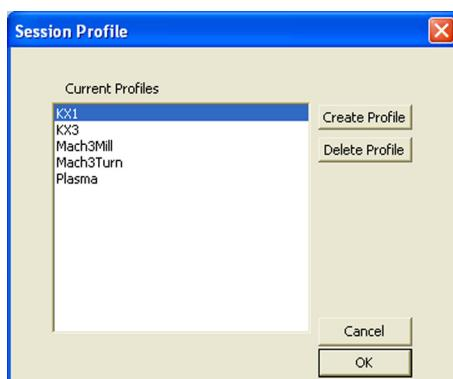

Fig. 3
2. Start Mach3: Open the **Mach3 Loader** program on the desktop and select either the KX1 or KX3 mill profile (to suit your machine), and click the OK button, Fig. 3. If you installed Mach3 from the CD or the smallcncsupport website, these profiles will be present by default.